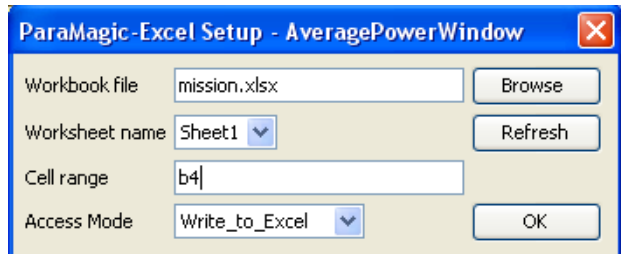

Figure 6.15 ParaMagic- Excel Set-up for slot
- i. For slots where we will write the result from the SysML model to the mission.xlsx spreadsheet, set the Access Mode to “Write_to_Excel”, as in Figure 6.15.